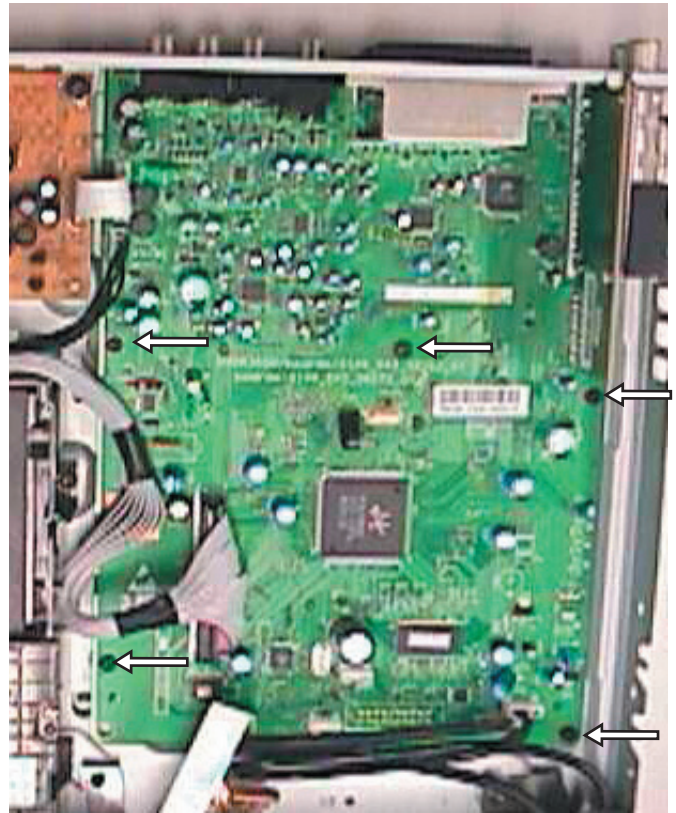

Figure 10- Remove the screws on the frame
- 1) Remove 5 screws on the frame 161 as shown in figure 10.